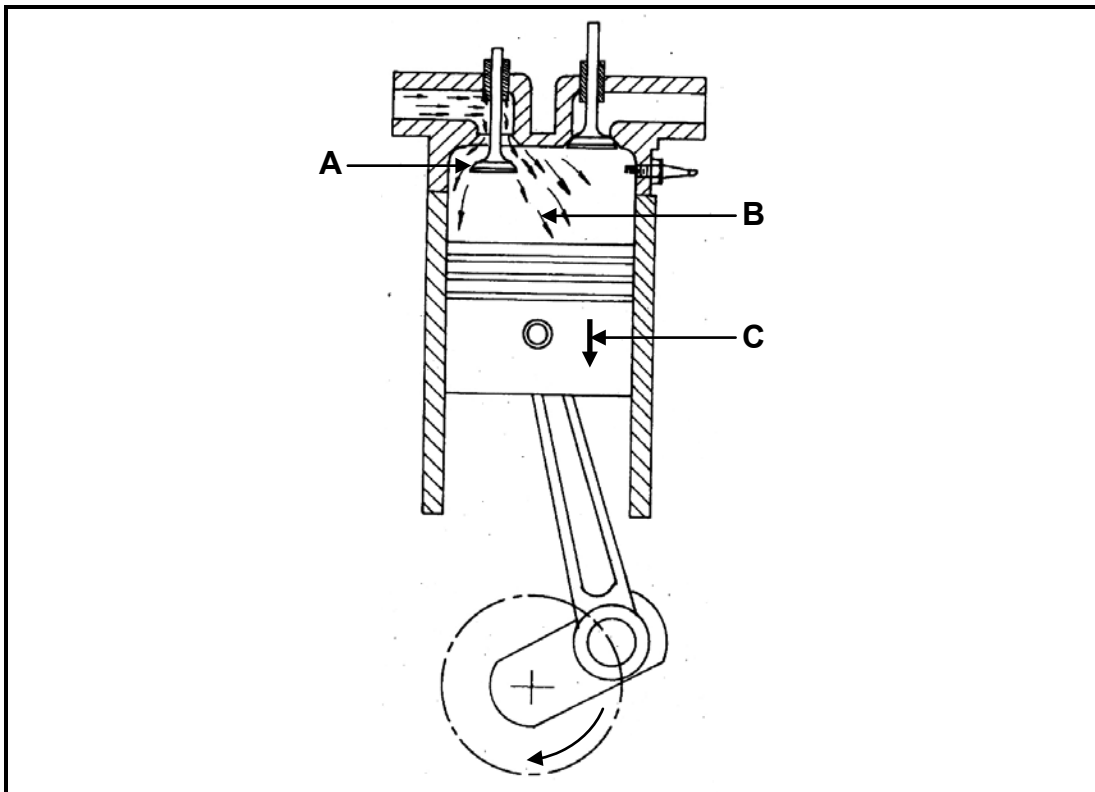

FIGURE 8.3
8.3 FIGURE 8.3 below shows a stroke of a four-stroke petrol engine. Answer the questions that follow.
- 8.3.1 Identify the stroke in FIGURE 8.3 above. (1)
- 8.3.3 Explain the operation of the stroke in FIGURE 8.3 above. (4)